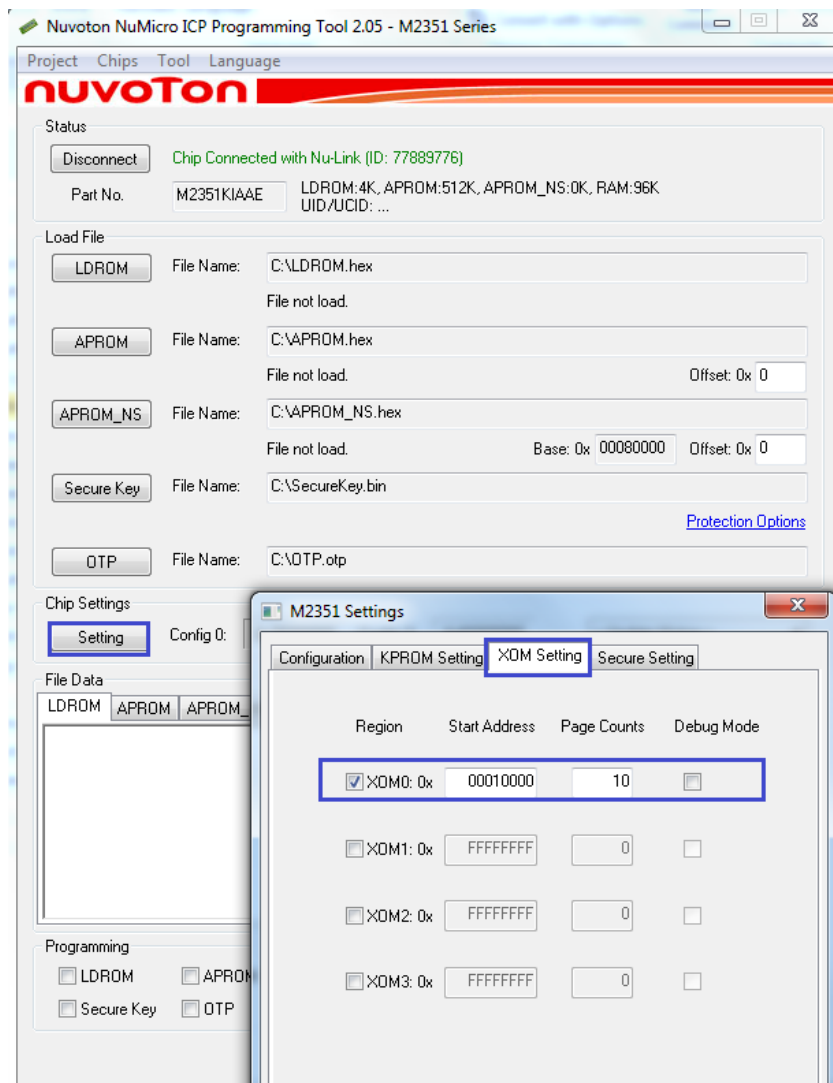

Figure 4-1 Open M2351 Settings and XOM Setting
2. Click “Setting” button to open the “M2351 Settings” page, as shown in Figure 4-1.